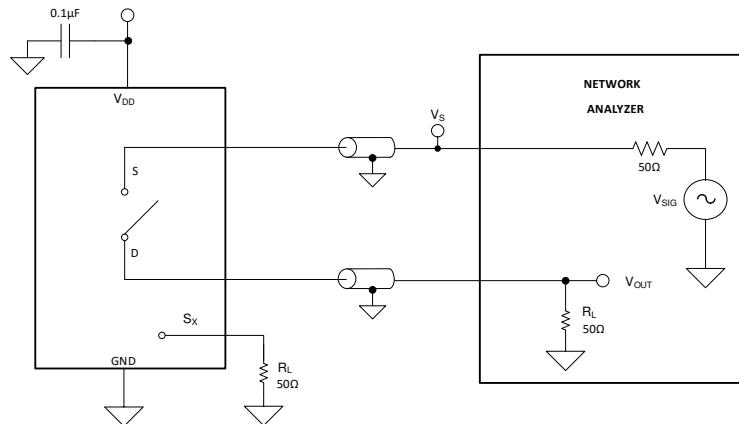

図 6-7. Off Isolation Measurement Setup
Off isolation is defined as the ratio of the signal at the drain pin (D) of the device when a signal is applied to the source pin (Sx) of an off-channel. 図 6-7 shows the setup used to measure, and the equation used to calculate off isolation.